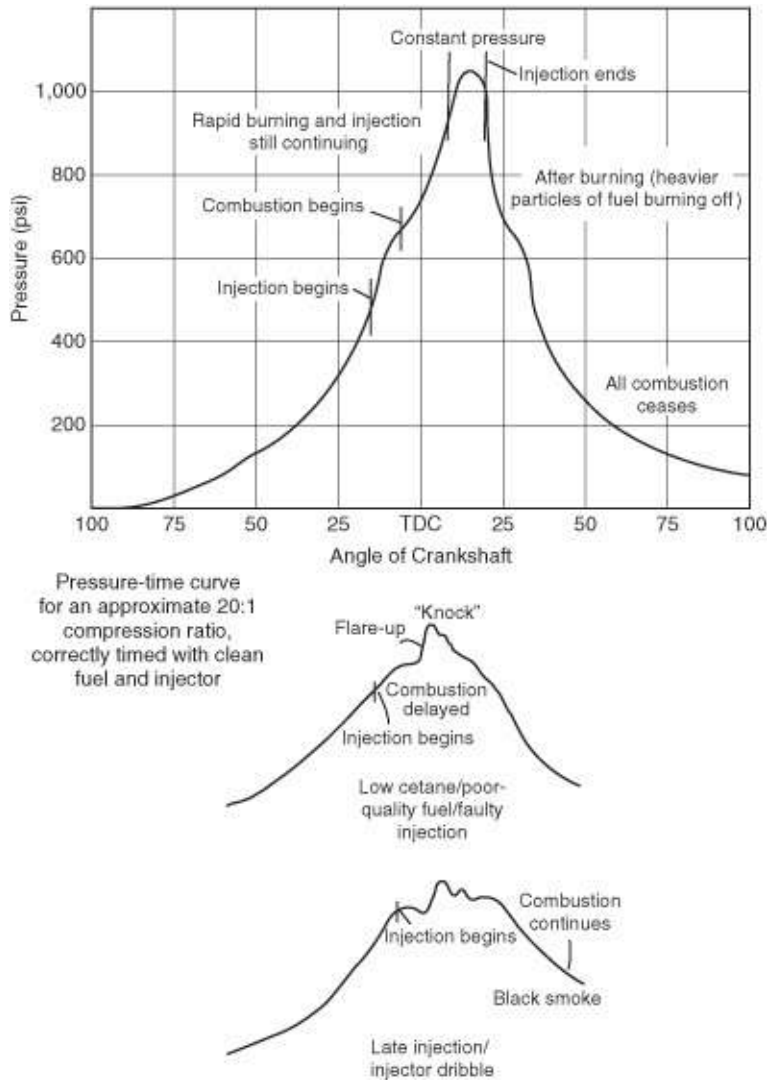

FIGURE 5-25. Fuel combustion pressure-time curves.
- Poor-quality fuel (low cetane rating, dirt or water in the fuel). The fuel is slow to ignite and builds up in the cylinder. But then the heat generated by the early part of combustion causes the remaining (and now excessive) fuel to burn all at once. The sudden expansion of the gases causes a shock wave to travel through the cylinder at the speed of sound. You will hear and feel this as a distinct knock (see Figure 5-25), known as *detonation*.